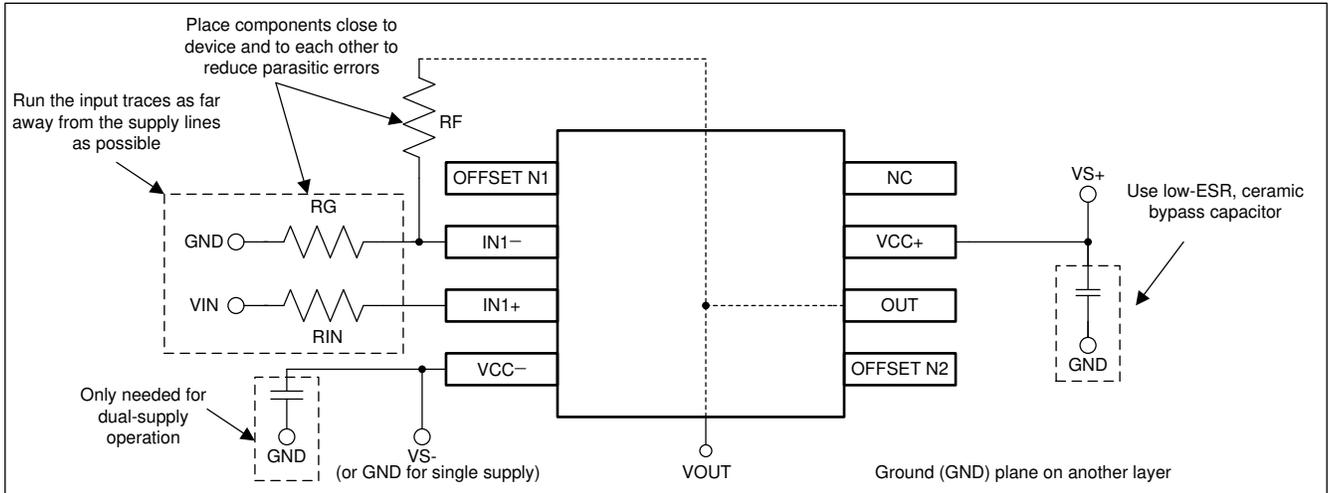

Figure 8-2. Operational Amplifier Board Layout for Noninverting Configuration
- Changed pins 1 and 5 from "NC" to "Offset N1" and "Offset N2" in Figure 8-2 10